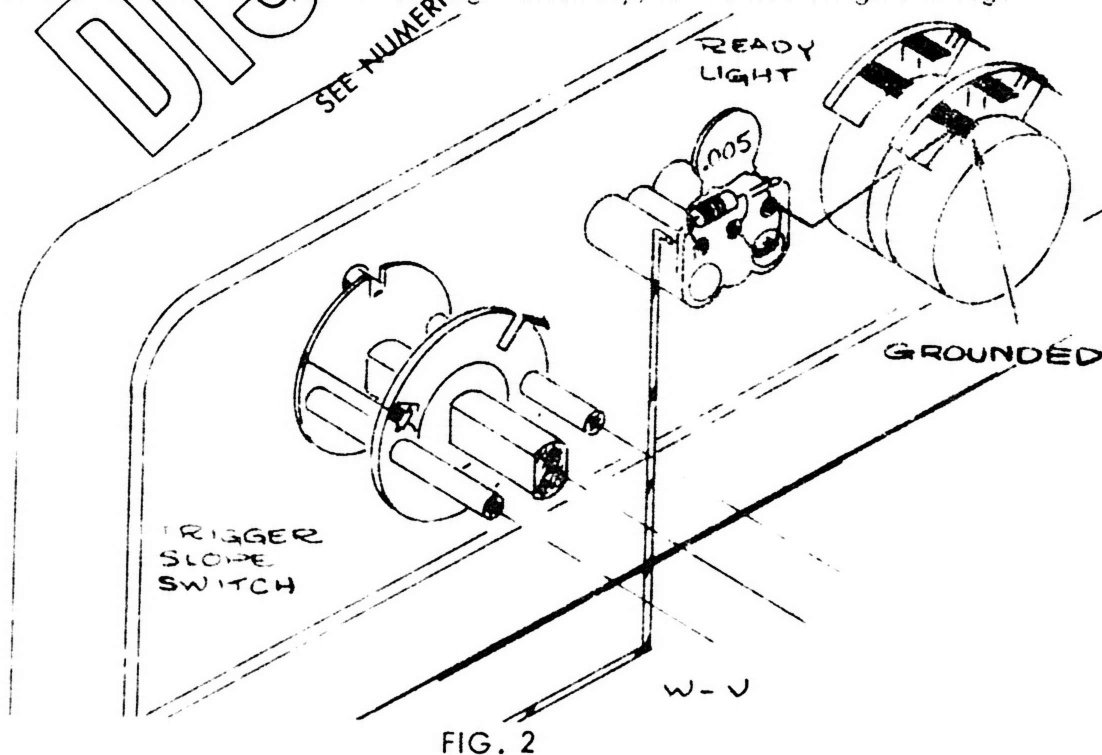

FIG. 2
- () 2. Solder the white-violet wire from the cable to the junction of the 10k resistor and 0.005 μ F capacitor on the READY tag assembly. See Fig. 2.